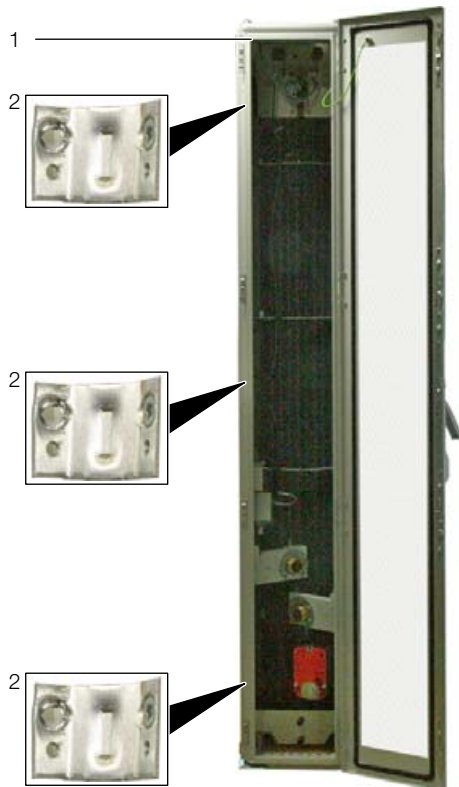

Fig. 29: LCP Rack – rear
- Using the corresponding assembly screws, fasten three baying connectors each (TS 8800.490, fig. 29, item 2) onto the attachment points provided in the mounting strips on the front and rear of the LCP Rack or LCP Inline flush (fig. 29, item 1).